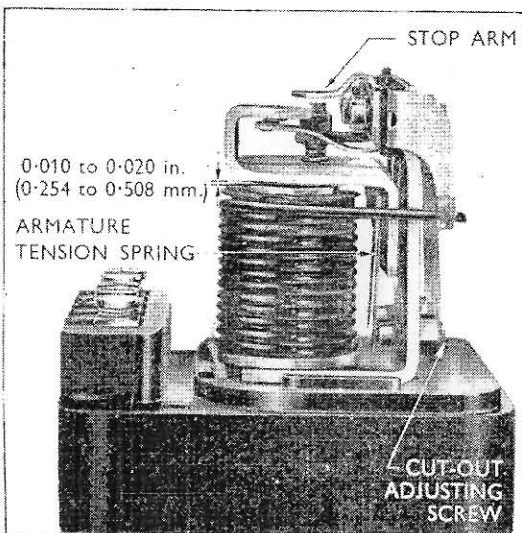

Fig. 10
5. Insert the end of a 0.010 to 0.020 in. (0.254 to 0.508 mm.) feeler blade between the outer end of the armature and core face, and set the fixed contact, by bending the arm, so that the points are **just** touching (see Fig. 10).